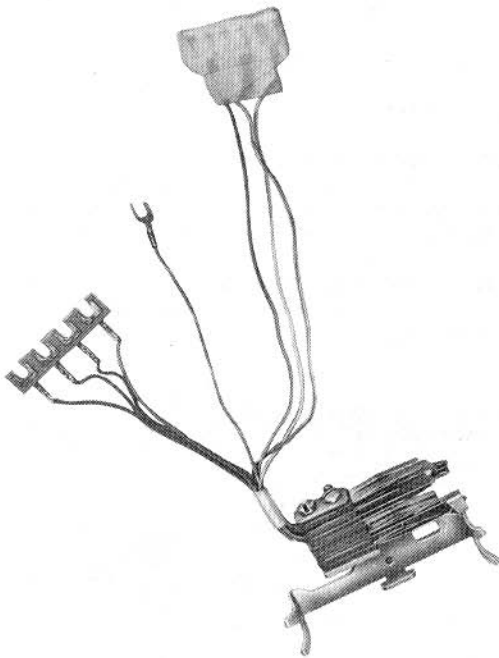

Fig. 7—812551182 (P-25E118) Exclusion Switch
2.10 The 812551182 (P-25E118) exclusion switch assembly terminates in individual and wafer strip spade-tipped conductors (Fig. 7). This allows adaption of the exclusion feature to any one of the pickup buttons.